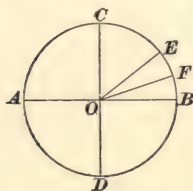

FIG. 13.
32. The arcs of circles are used to measure angles. An angle having its vertex at the center of a circle is measured by the arc included between its sides; thus, in Fig. 13, the arc FB measures the angle FOB . If the arc FB contains 20° , or $\frac{20}{360}$ of the circumference, the angle FOB would be an angle of 20° ; if it contained $20^{\circ} 14' 18''$, it would be an angle of $20^{\circ} 14' 18''$, etc.